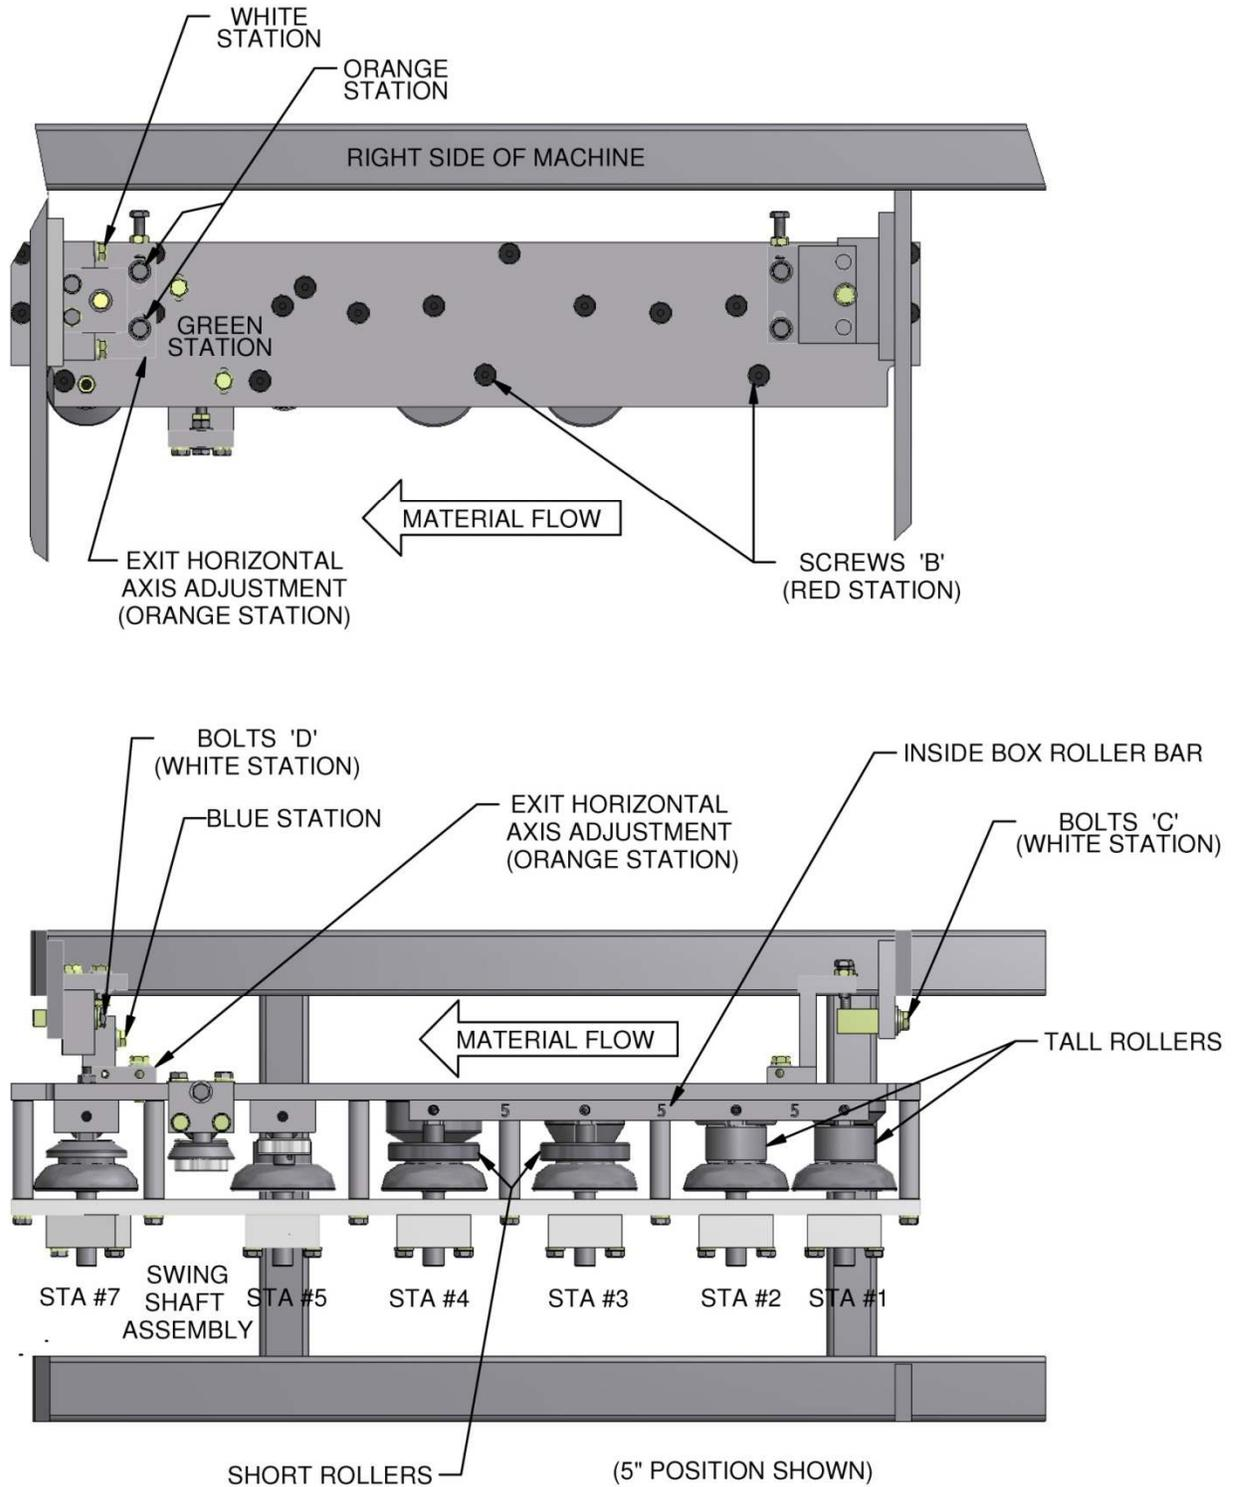
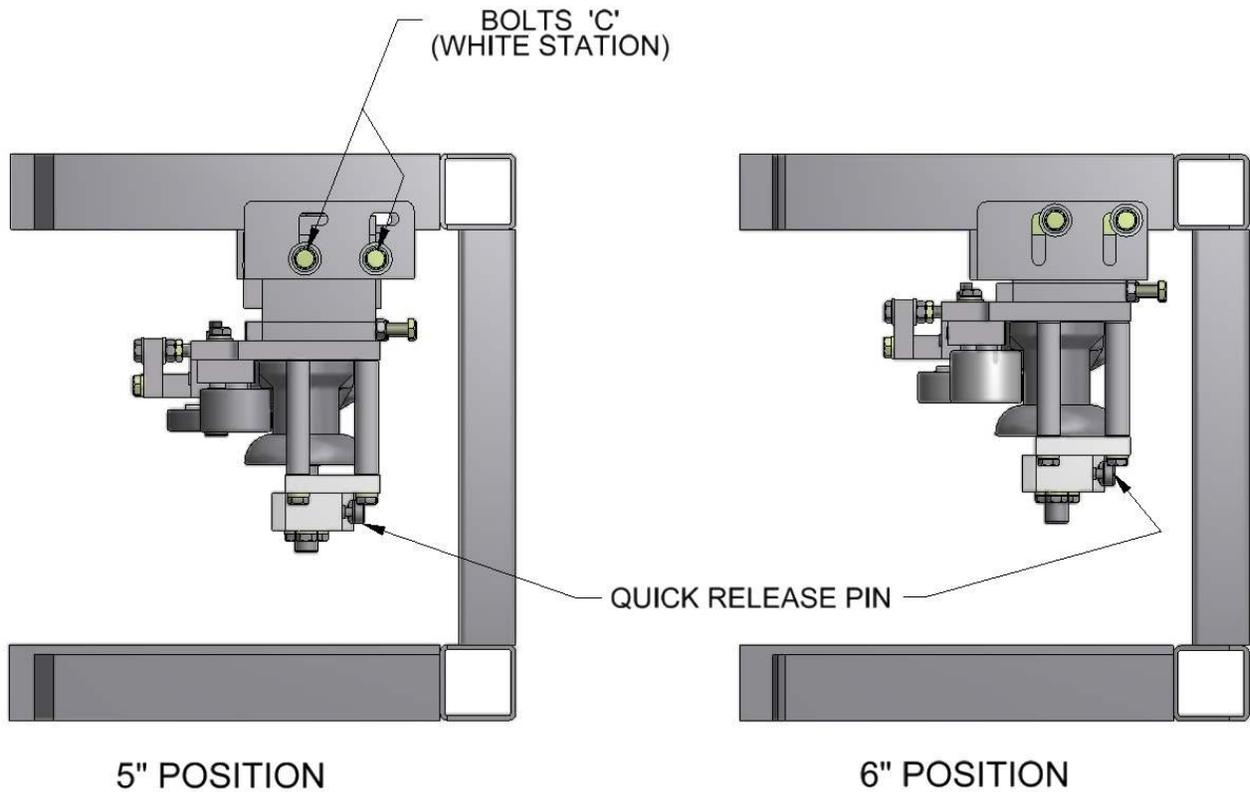

Figure 68: Combo Box Assembly
Figure 69: Combo Box Assembly Positions
Remove the inside box roller bar assembly by removing the two (2) **red** marked screws "B", located on the top of the box (Figure 68). Set this assembly aside.
(Figure 68 and Figure 69)
Remove the replacement inside box roller bar from the storage location and install. The tall rollers locate in the station #1, and #2 positions while the short rollers locate in the station #3, and #4 positions. Re-install the 2 (two) **red** marked screws "B" and tighten (Figure 68).